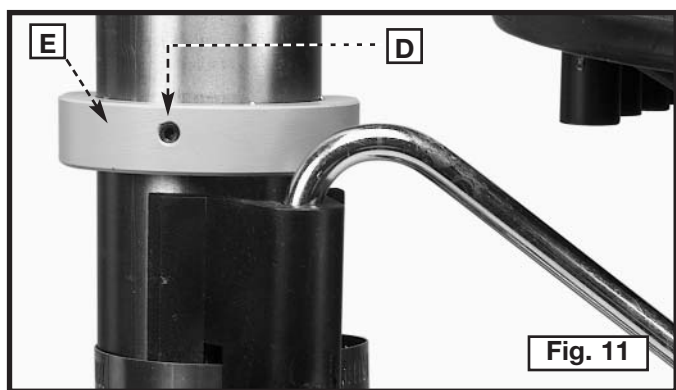

Fig. 11
8. Install the ring (E) Fig. 11 (removed in **STEP 1**) on the column.
**IMPORTANT:** Place the raising rack under the bottom of the ring, but allow enough clearance so that the rack (F) can rotate around the column. Tighten the set screw (D) Fig. 11.